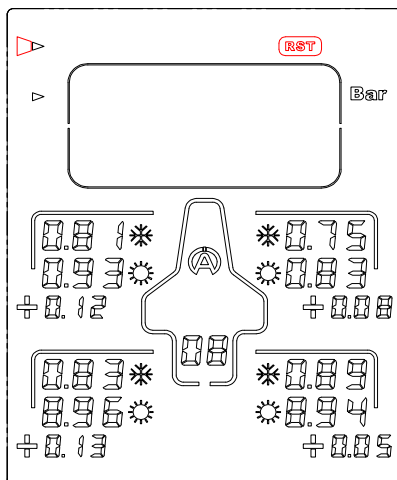

Figure 10
- 1) With the help of the buttons  , select the icon « **RST** » (figure 10)